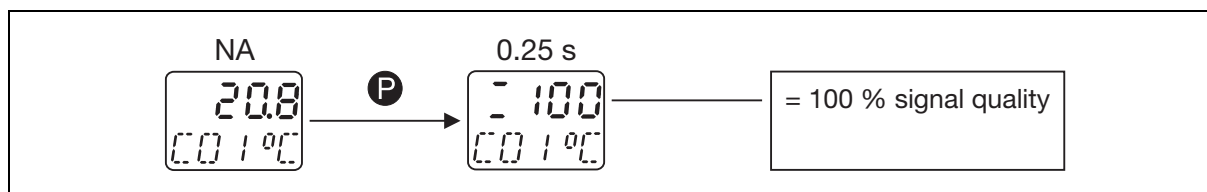

Fig. 7-3 Display of signal quality
The **P** key is used to show the signal quality value of the current channel in percent in the normal display (NA) (see Fig. 7-3, 100 %).